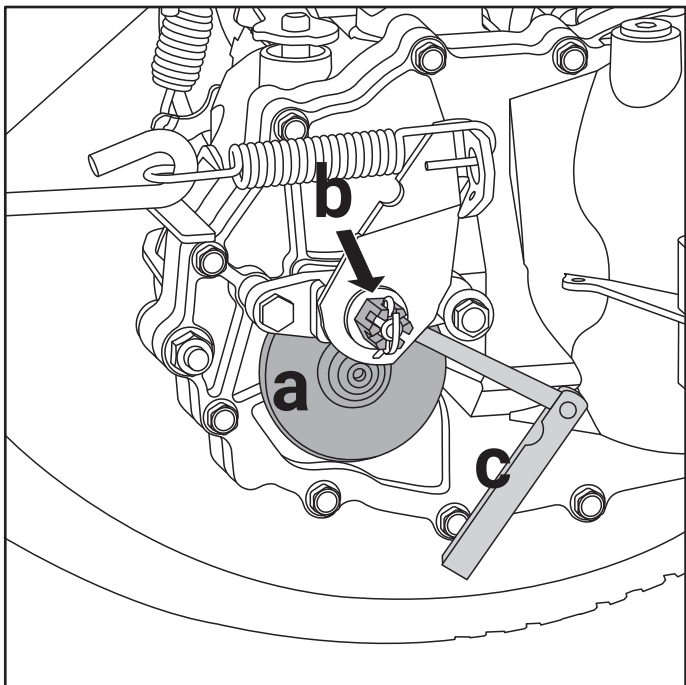

Fig. 35B
3. While rocking the brake rotor (a) back and forth slowly tighten nut (b) until it's not possible to move the brake rotor.(Fig.35B)
3. Insert a 0.5mm feeler gauge (c), from the side, into the gap between the brake rotor (a) and brake pad.(Fig.35B)